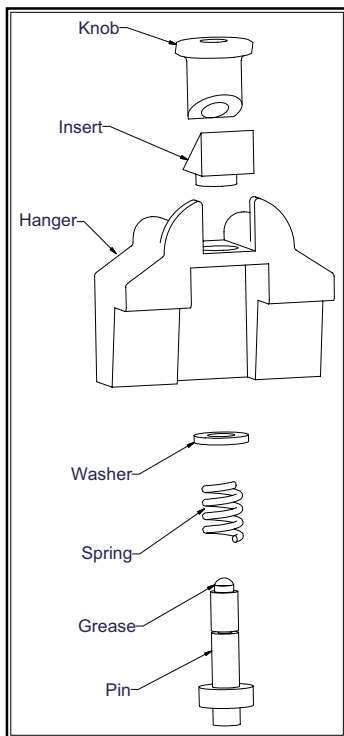
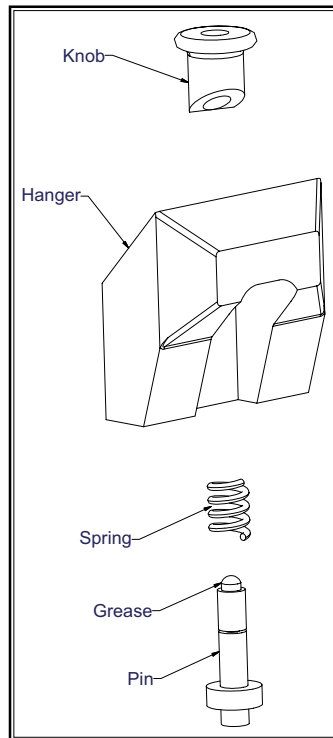

Figure 1
Figure 2
- 1) All pin kits are supplied with sufficient parts to retrofit the old style hangers as shown in Figure 1. These pin kits are also designed for the new style hooks, but the insert and washer are not required, as shown in Figure 2.